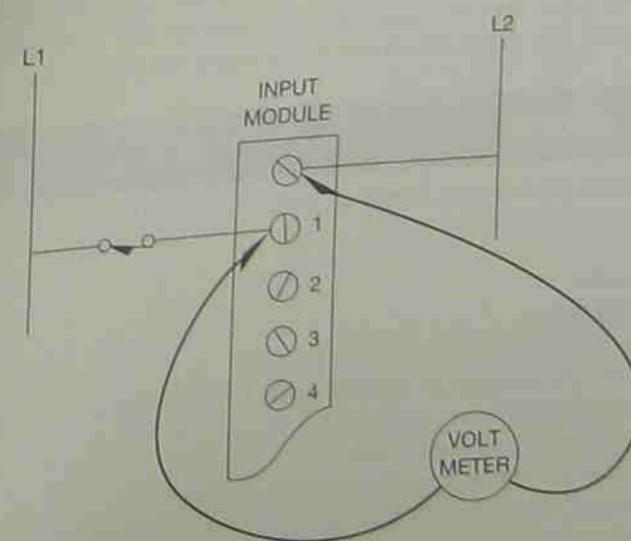

Figure 20-11 Testing Voltage on an Input Module
An illuminated LED indicates that the limit switch is closed, but that the state of the switch (ON) is not being communicated to the processor. Exchanging the input module should make the system operational. However, had the indicator LED for LS-1 not been lit, there could be several other possible problems such as a bad limit switch, faulty wiring from LS-1 to the input module, or a bad input module. Closing the limit switch and taking a voltage check as shown in Figure 20-11 determines if the limit switch and associated wiring is operational.